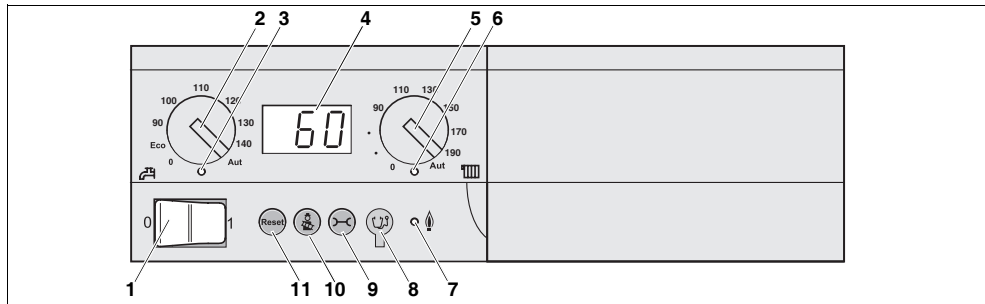
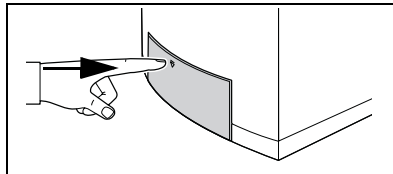

Fig. 1 Logamatic BC10 basic controller – Controls
Fig. 2 Opening and closing the control panel
- Briefly push the drawer to open the control panel (fig. 2). The drawer will come out. The control panel consists of the Logamatic BC10 basic controller (fig. 1).